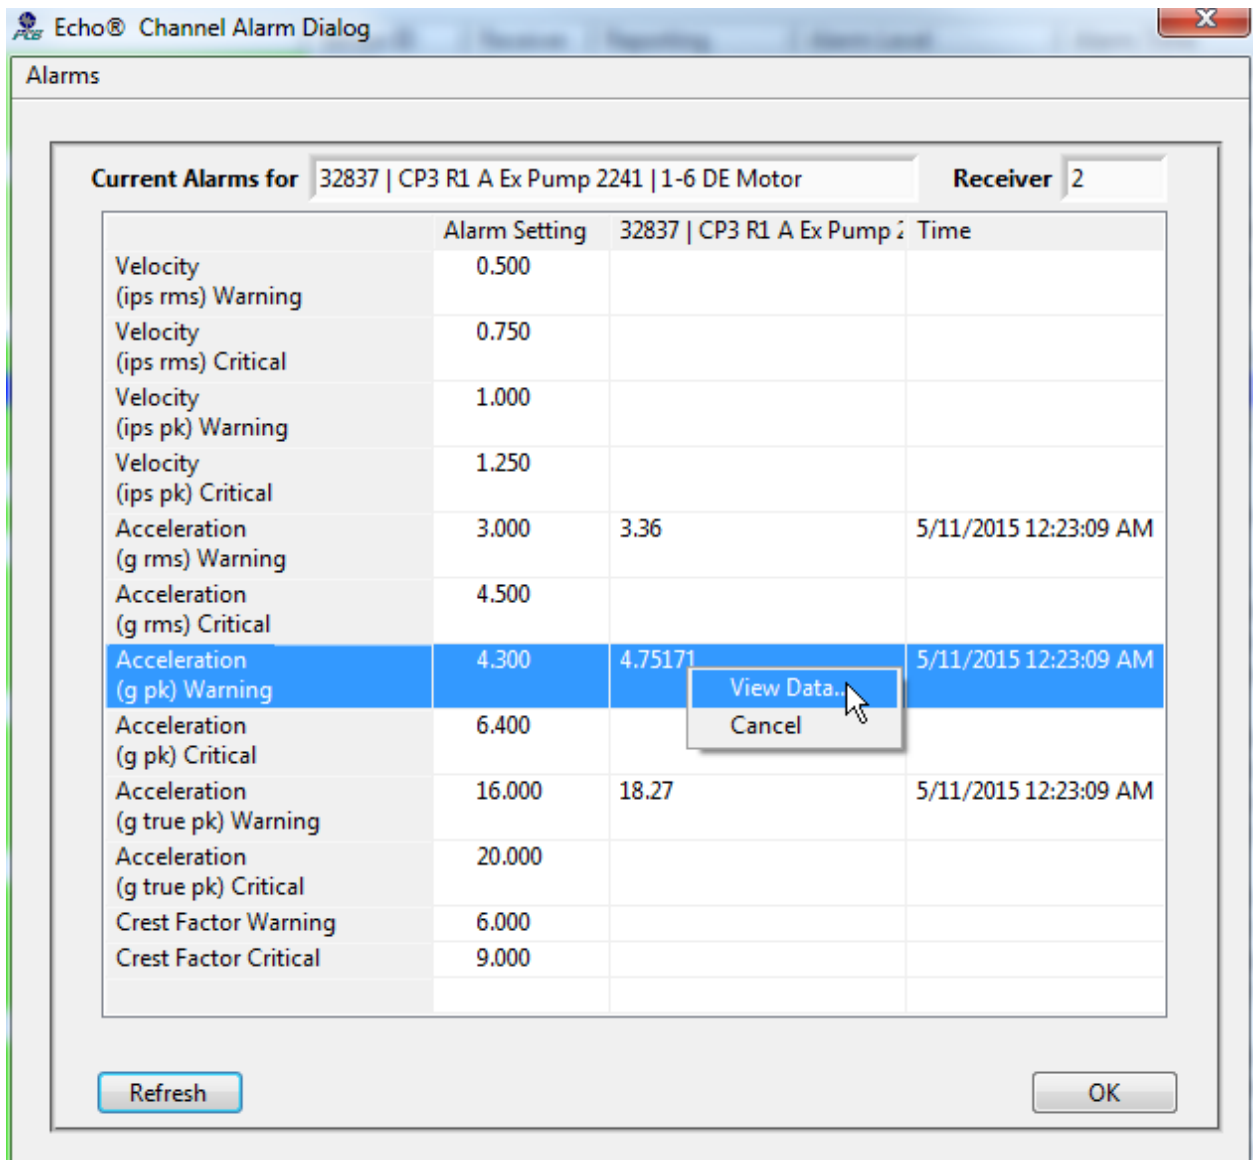

Figure 125 – Echo® Channel Alarm Dialog
- **View Alarms...** brings up the screen (Figure 125)